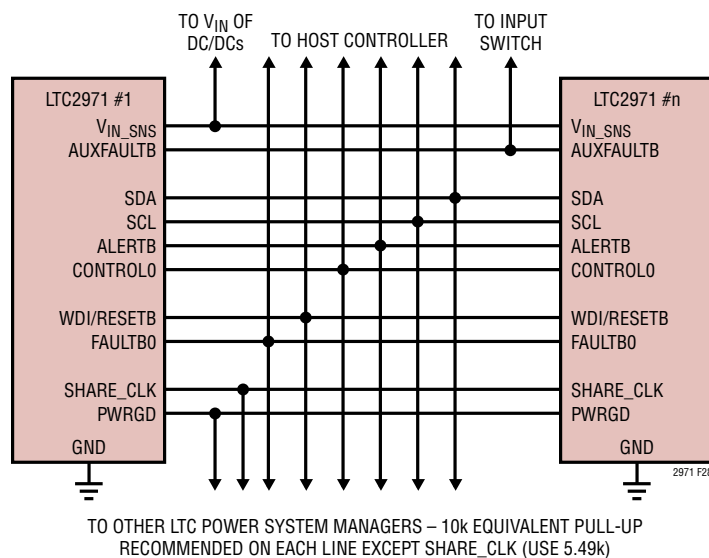
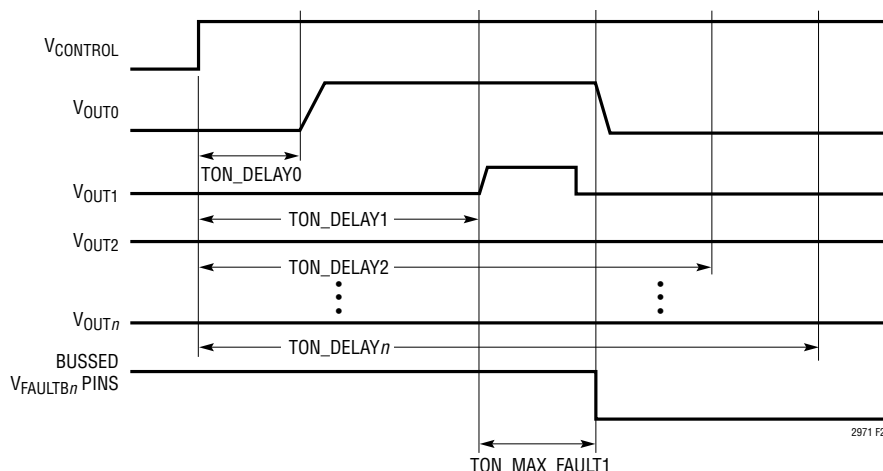

Figure 28. Typical Connections Between Multiple ADI Power System Managers
Figure 29. Aborted On-Sequence Due to Channel 1 Short
Figure 28 shows how to interconnect the pins in a typical multi-LTC2971 array.
- The `FAULTB` lines can be connected together to create fault dependencies. Figure 28 shows a configuration where a fault on any `FAULTB` will pull all others low. This is useful for arrays where it is desired to abort a startup sequence in the event any channel does not come up (see Figure 29).
- `PWRGD` reflects the status of the outputs that are mapped to it by the `MFR_PWRGD_EN` command. Figure 28 shows all the `PWRGD` pins connected together, but any combination may be used.